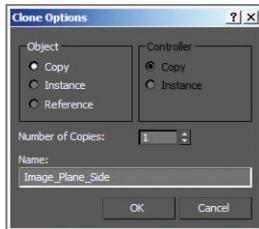

FIGURE 7.1 The Clone Options dialog box
8. Select the Select And Rotate tool (E) and select the Image_Plane_Front object. Hold down the Shift key on the keyboard and, in the Front viewport, rotate the image plane along the Y-axis 90 degrees.
9. Using the Shift key activates the Clone Options dialog box, shown in Figure 7.1.